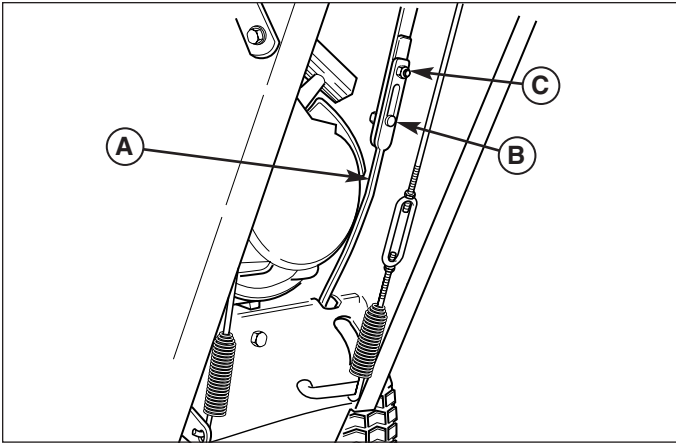

Figure 18. Speed Selector Linkage
1. Loosen the two nuts (C, Figure 18).
3. Push the lower rod into the housing and tighten the two nuts (C). Do not lift up or down on rods while tightening. Make sure the shoulders of the carriage bolts (B) are in the slots.